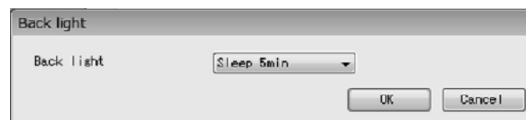

Fig.91
- ① Click "Setup (S)" > "LCD" > "Back light" in the menu.
- ② The following window will be displayed (Fig. 91). Turn the back light on or off here, and set the length of time on.